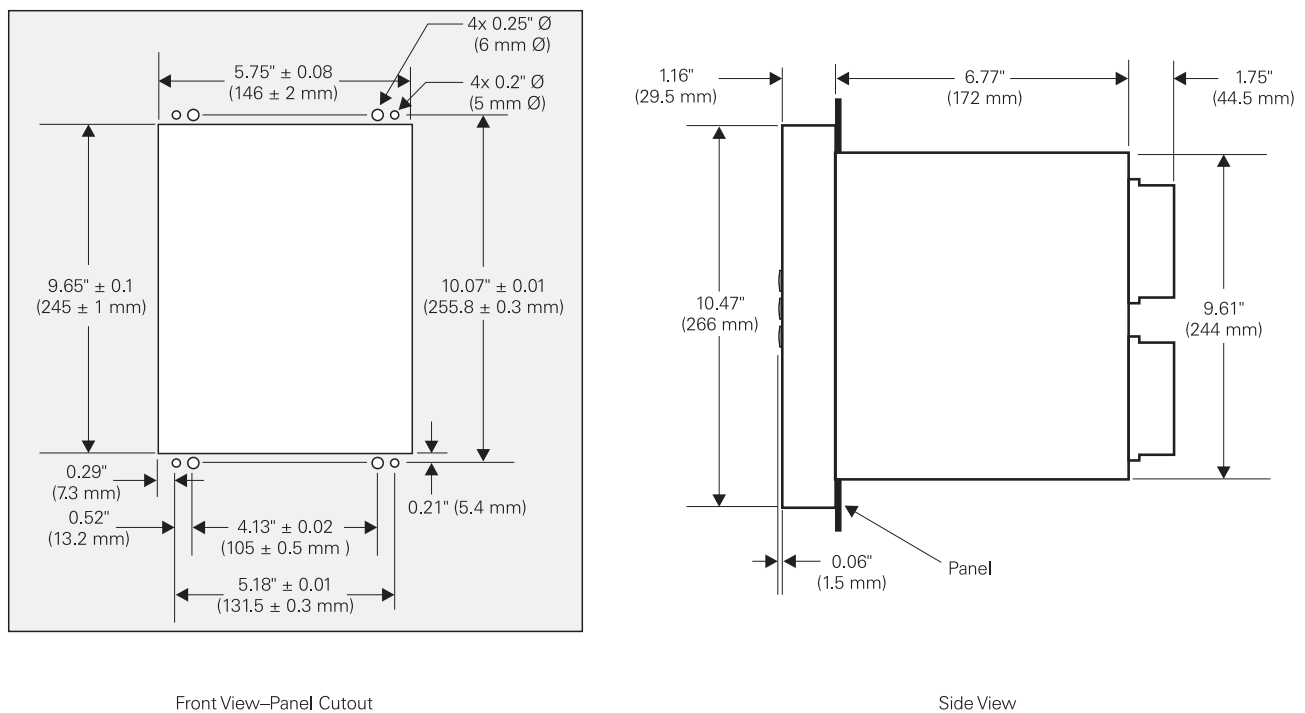
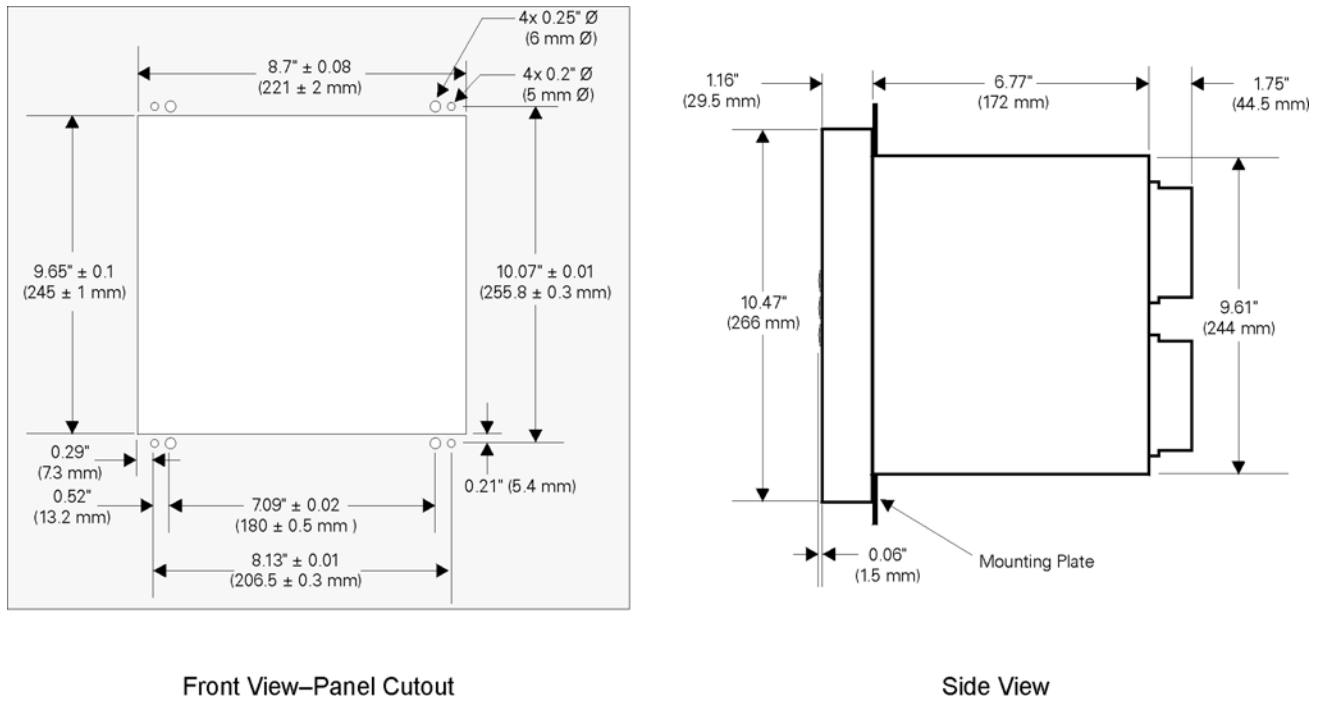

Figure 17.6 Dimensions of Case and Panel Cutout for a 7UT512 Relay
Figure 17.7 Dimensions of Case and Panel Cutout for a 7UT513 Relay
1. Cut and drill the mounting panel to the dimensions shown in Figure 17.6 (for the 7UT512 relay) or Figure 17.7 (for the 7UT513 relay).